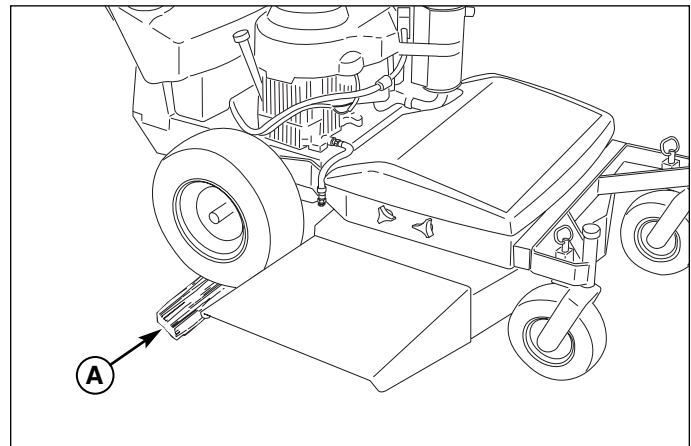

Figure 3. Raise Rear of Machine
2. Park machine and place the rear tires in a 2 x 4 block of wood (A, Figure 3) or park machine on a slight downhill grade.